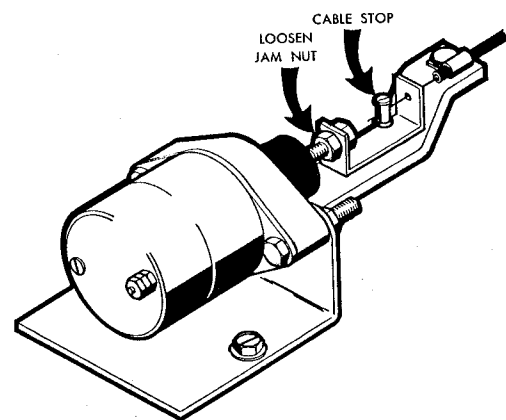

Figure B-3. Electric Speed Control
1. Prepare the mounting location of the compressor by locating and drilling four (4) holes, 7/16" diameter, as shown in Figure B-3.
An optional electric speed control (IMT part number 93091419) should be used. This unit is provided with mounting instructions. On units equipped with an electric speed control, the engine speed will automatically increase when the clutch is engaged, and decrease when the clutch is disengaged. See Figure B-3.